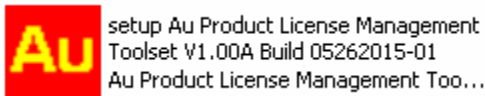

Figure C-1
1. Double click the installation program of "AU setup J1939 Simulator License Management Toolset V2.00A", as shown in Figure C-1.